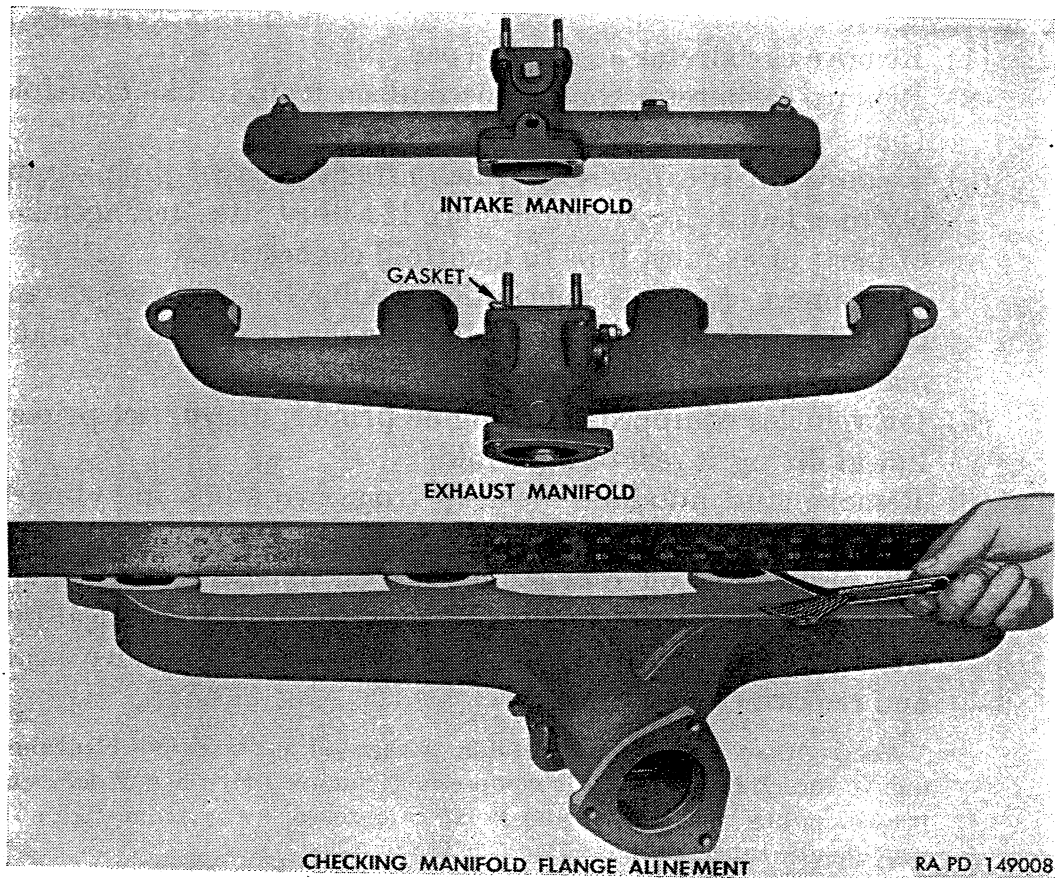

Figure 96. Inspecting manifolds.
- (1) Inspect manifolds for evidence of cracks, and use straight-edge to check alinement of exhaust manifold flanges (fig. 96). Flanges should be in line within one thirty-second of an inch. Clean gasket surfaces and pilot counterbores at cylinder head and manifolds. Inspect heat control valve in exhaust manifold. If valve assembly is burned or otherwise damaged, or if flanges are not in alinement, obtain new or repaired exhaust manifold assembly including heat control valve and shaft.
- (2) Inspect exhaust manifold for elongation as indicated by excessive length from centerline to centerline of end stud holes. Correct dimension is  $26\frac{7}{8}$  inches. If this dimension is incorrect, set exhaust manifold on studs in cylinder head and note clearance at studs. If necessary, file manifold to eliminate any interference between manifold and studs.